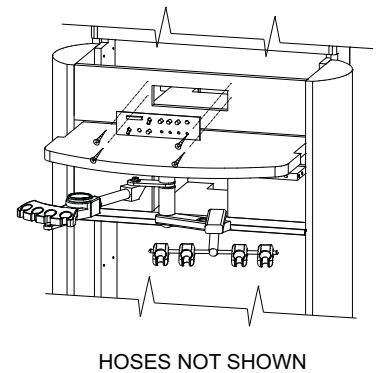

FIGURE 9
Install the control panel with (4) #6 x 3/4" white painted screws (supplied by manufacturer) to upper front panel and attach vacuum, air and water connections to building plumbing according to the unit manufacturers directions. See Figure 9